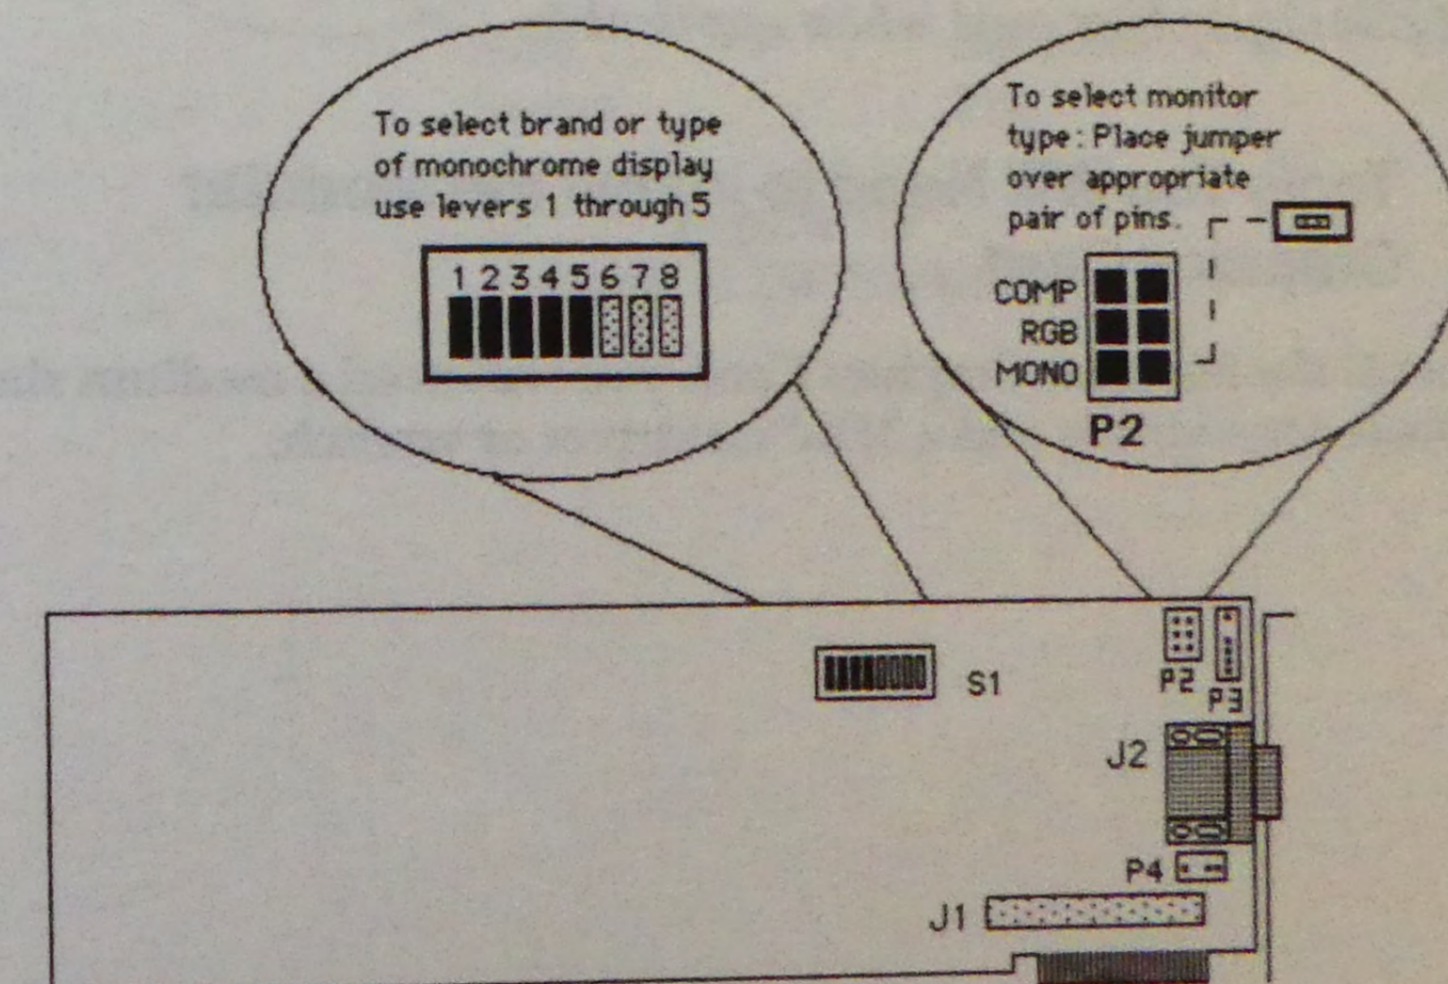

Figure 1.1
- Figure 1.1 Features and Controls of the Modular Graphics Card 1
Figure 1.1 (below) shows the features and controls of the Modular Graphics Card. Study it and make sure that you can identify the following items. They will be referenced throughout this manual.